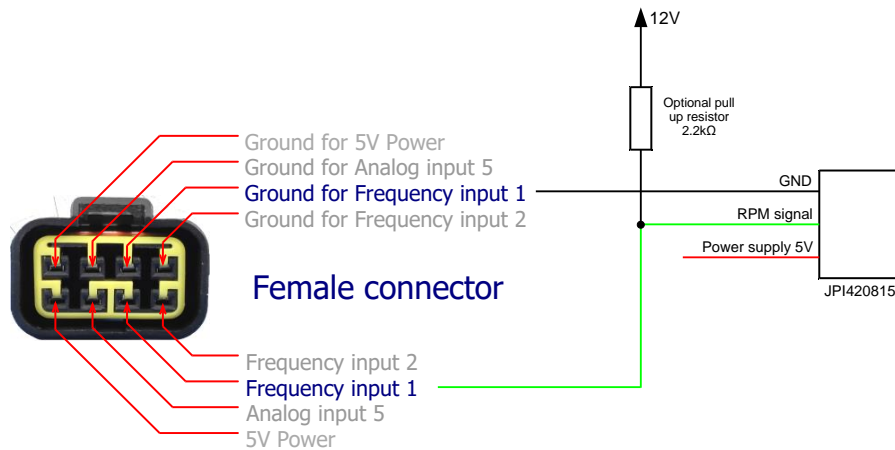

Figure 10: Active P-lead sensing from magnetos (view from unit side)
- Active P-lead sensing from magnetos (JPI 420815) - Figure 10: Active P-lead sensing from magnetos